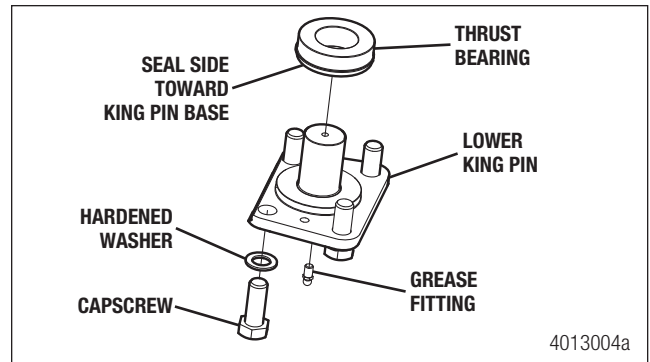

Figure 14.6
3. Install the thrust bearing over the lower king pin. The seal side of the thrust bearing must be seated against the lower king pin. Figure 14.6.